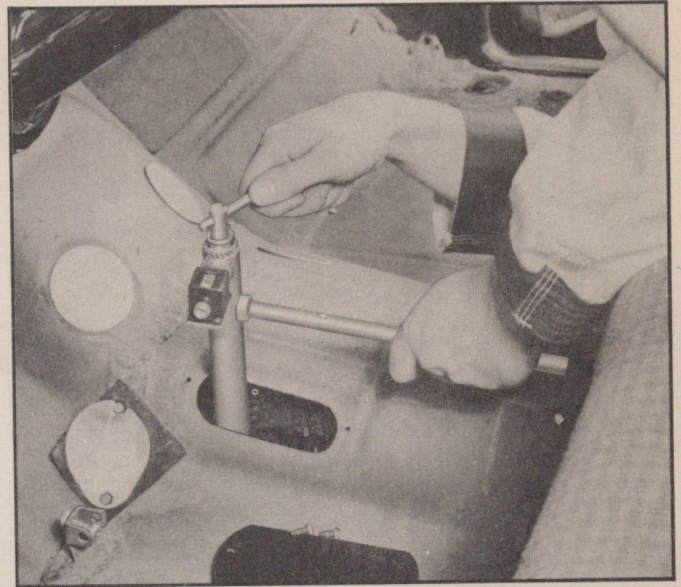

Fig. 78—Adjusting Front Band Using J-2681 and Tachometer
1. Using band adjusting tool No. J-2681 loosen front band adjusting screw lock nut (Fig. 78).
5. Set counter on tool to 00 (Fig. 78).